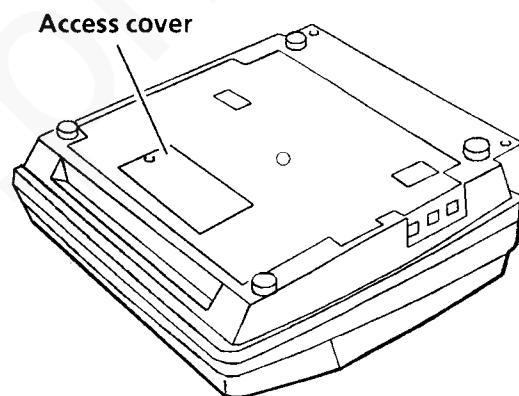

Figure 3. Access cover for EPROMs
4. Remove the plastic rivot from the insert and remove the access cover (Figure 3).